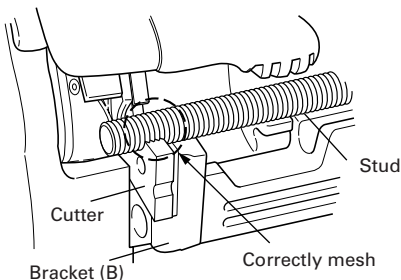

Fig. 8
- (2) As shown in Fig. 8, set the stud to be cut in the cutter on the bracket (B) side, making sure that the threads correctly mesh with each other.